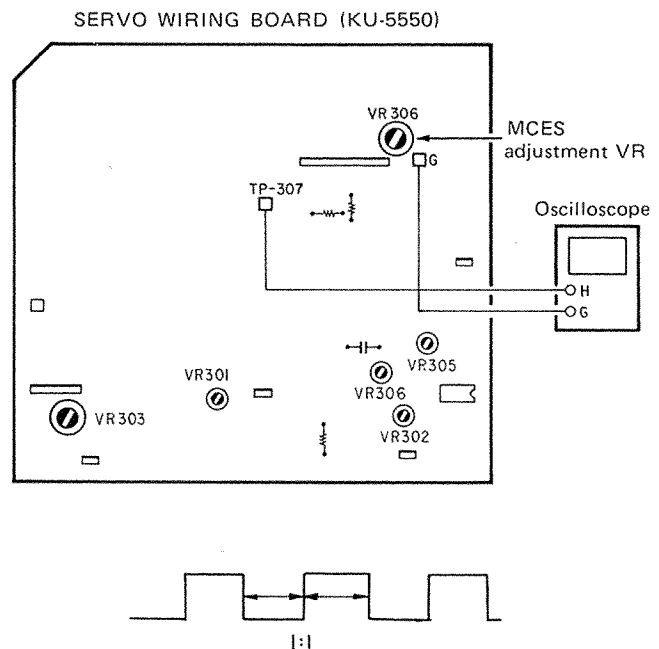

Fig. 32
**11. Adjustment of MCES. (Fig. 32)**
### 1. Adjustment of VCO oscillating frequency. (Fig. 32, 33)